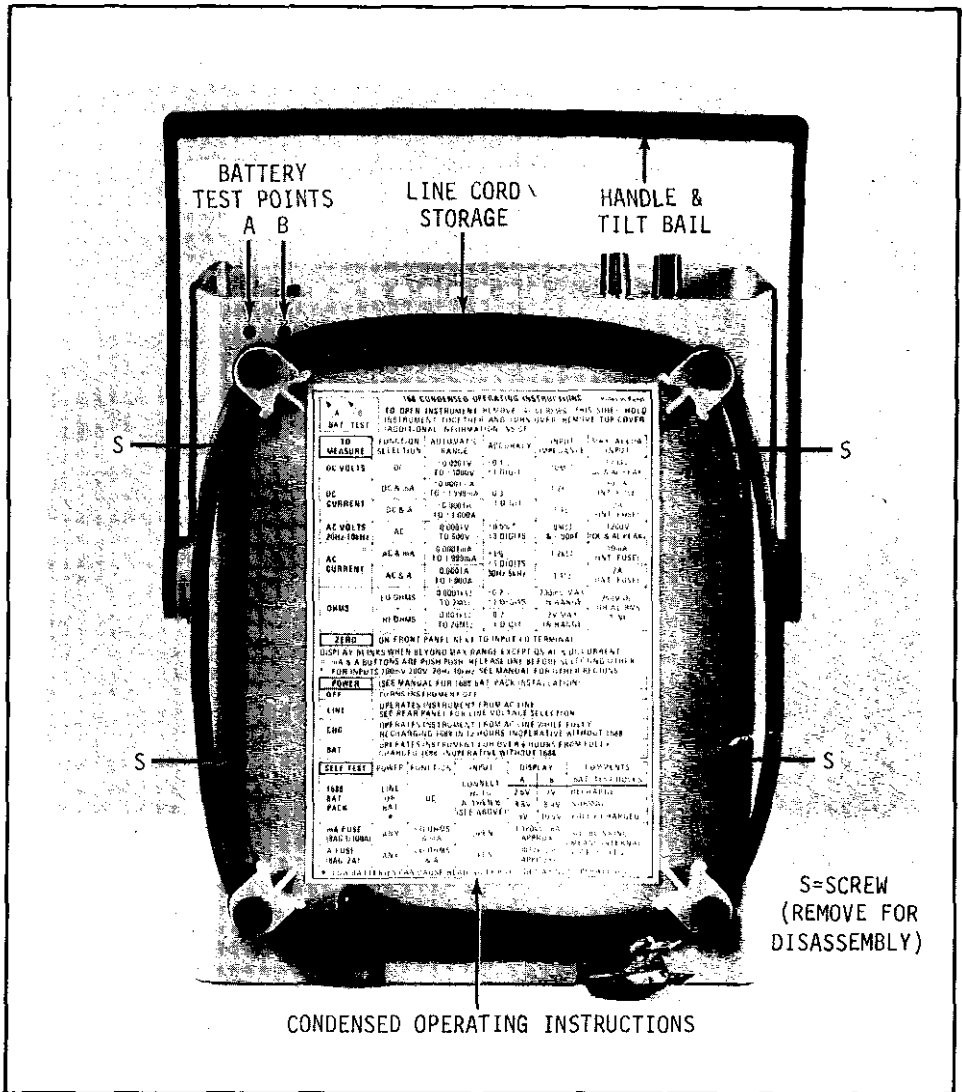
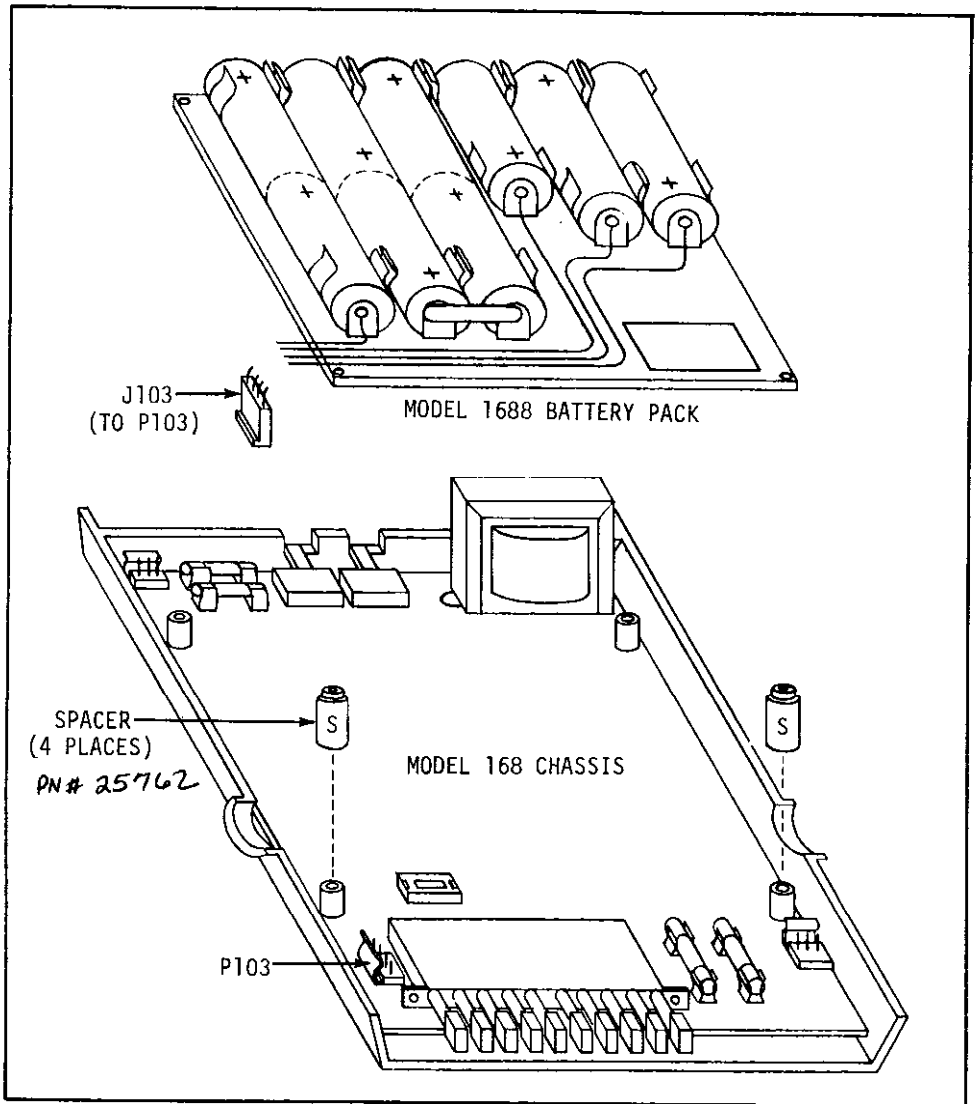

FIGURE 4. Bottom View Showing Line Cord.
FIGURE 8. Installation of Battery Pack.
a. How to Operate From Line Power. The Model 168 provides a three-wire line cord which mates with third-wire grounded receptacles. The permanently installed line cord is stored by wrapping the cord around the base of the instrument as shown in Figure 4.
1. How to Install Model 1688 Rechargeable Battery Set. The batteries furnished with the Model 1688 come already installed in the battery pack. The battery pack includes 7 rechargeable "C" cells (1.2V, 2 AMP HR) and 2 rechargeable "button" cells (8.4V, .225 AMP HR). If batteries need to be replaced or re-installed, be certain to observe the proper polarity of individual cells as shown in Figure 6. To install the Model 1688 Battery Pack, turn the instrument over so that the bottom cover faces up. Remove four slotted screws on the bottom cover as shown in Figure 4. (A chisel-blade screwdriver is required to loosen the slotted screws.) Turn over the instrument with top cover facing up, taking care to hold the top and bottom covers together. Remove the top cover to gain access to the printed circuit board. Check to see that the four insulating standoffs are in position on the printed circuit board. Place the Model 1688 Battery Pack in position on the standoffs with the cable oriented as shown in Figure 8. Plug the 4-wire connector (J103) into the mating receptacle (P103) taking care to orient the connector as shown in Figure 8. After the Battery Pack is installed, replace the top cover. Turn over the instrument with bottom cover facing up and install the four slotted-head screws.